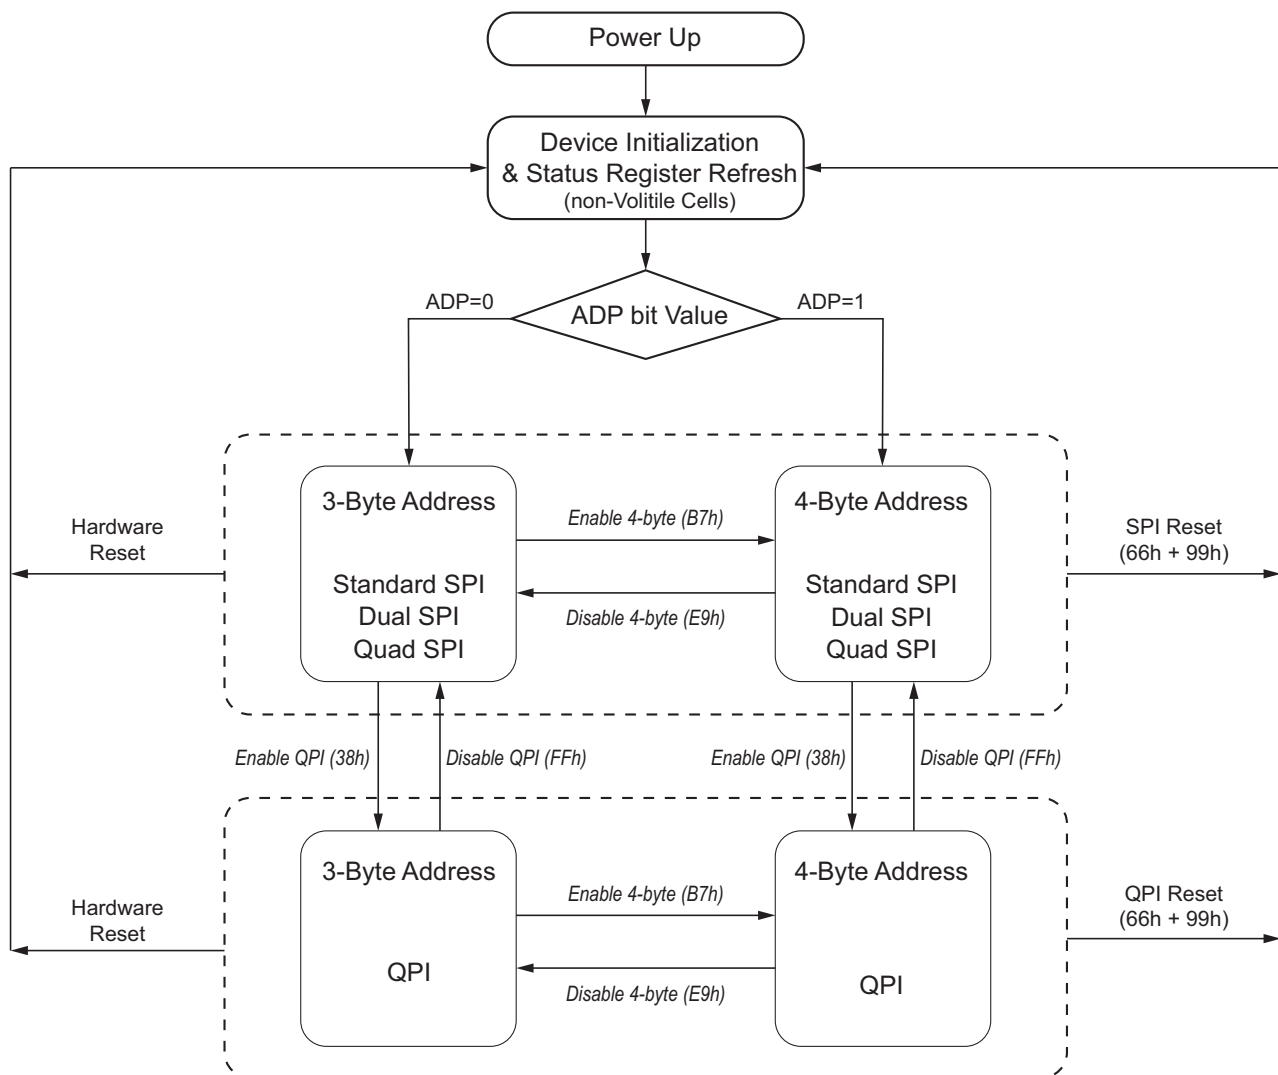

Figure 5. Device Operation Modes
The AT25SL2561C / AT25QL2561C supports Quad Peripheral Interface (QPI) operations only when the device is switched from Standard/Dual/Quad SPI mode to QPI mode using the “Enter QPI (38h)” command. The typical SPI protocol requires that the byte-long command code being shifted into the device only via SI pin in eight serial clocks. The QPI mode utilizes all four IO pins to input the command code, thus only two serial clocks are required. Standard/Dual/Quad SPI mode and QPI mode are exclusive. Only one mode can be active at any given time. “Enter QPI (38h)” and “Exit QPI (FFh)” commands are used to switch between these two modes. Upon power-up or after a software reset using “Reset (99h)” command or Hardware Reset, the default state of the device is Standard/Dual/Quad SPI mode. To enable QPI mode, the non-volatile Quad Enable bit (QE) in Status Register-2 is required to be set. When using QPI commands, the SI and SO pins become bidirectional IO₀ and IO₁, and the WP and HOLD pins become IO₂ and IO₃ respectively. See Figure 5 for the device operation modes.